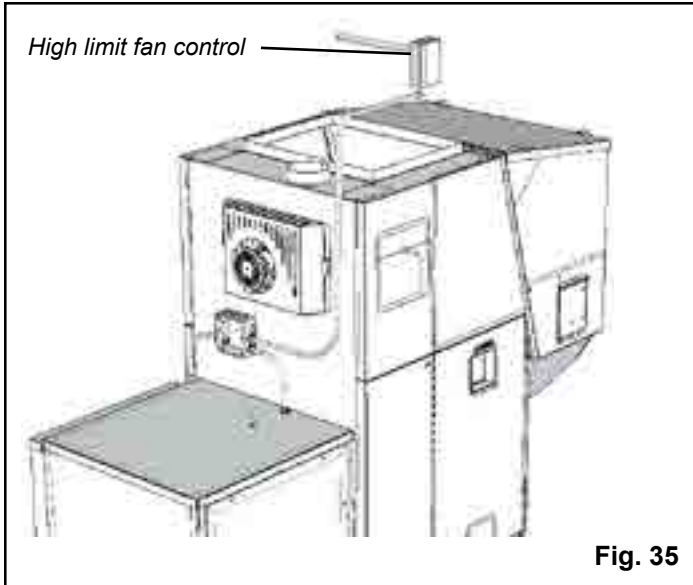

Fig. 35
**Note:** The best place is on the same side as the ash door because of ease of access. See Fig. 35.